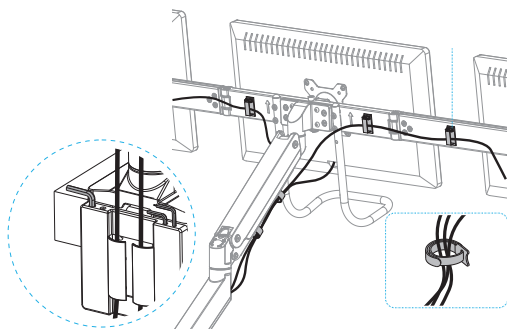

Figure 26
7. (Optional) Use the **Hook and Loop (Spring Arm)** to create **Cable Bundles** under the **Spring Arms** and **Swivel Arms**. (Figure 26)